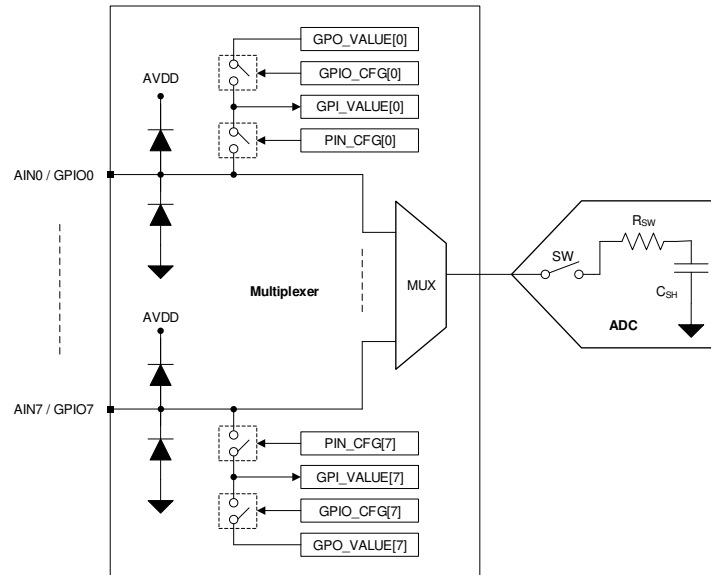

图 7-1. Analog Inputs, GPIOs, and ADC Connections
The eight channels of the multiplexer can be independently configured as ADC inputs or general-purpose inputs/outputs (GPIOs). As shown in Figure 7-1, each input pin has ESD protection diodes to AVDD and GND. On power-up or after device reset, all eight channels of the multiplexer are configured as analog inputs.
Figure 7-1 shows an equivalent circuit for the pins configured as analog inputs. The ADC sampling switch is represented by an ideal switch (SW) in series with a resistor (R_{SW} , typically $150\ \Omega$) and a sampling capacitor (C_{SH} , typically $30\ \text{pF}$). During acquisition, the SW switch is closed to allow the signal on the selected analog input channel to charge the internal sampling capacitor. During conversion, the SW switch is opened to disconnect the analog input channel from the sampling capacitor.
To enable write access to the configuration registers for diagnostics, write 0x96 in the DIAGNOSTICS_KEY register. To enable bit-walk test mode, configure BITWALK_EN = 1b. In the bit-walk test mode (see 图 7-1), the sampling switch (SW) remains open and the test voltage is applied on the sampling capacitor (C_{SH}) during the acquisition phase of the ADC. In diagnostic mode, the conversion process of the ADC remains the same as normal device operation. The ADC starts the conversion phase on the rising edge of \overline{CS} and outputs the code corresponding to the sampled test voltage. The output code of the ADC is expected to be proportional to the test voltage, as shown in 方程式 2, after adjusting for DC errors (such as INL, gain error, offset error, and thermal drift of offset and gain errors).